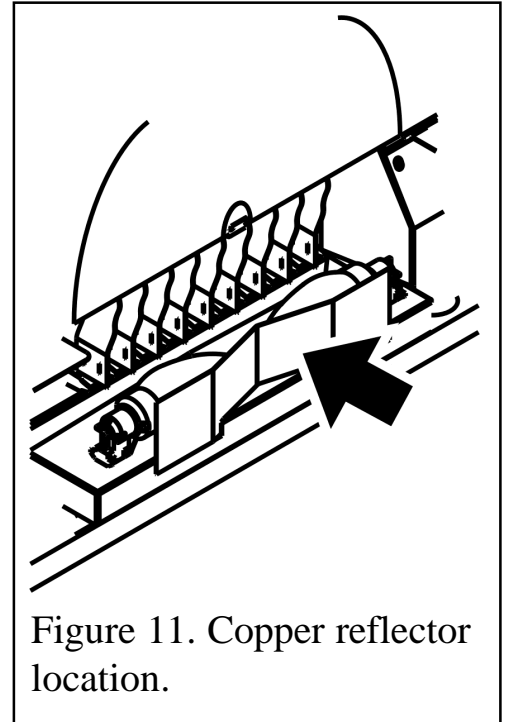

Figure 11. Copper reflector location.
It simply drops into the shaped slot in front of the light bulbs (See figure 11). Remove any protective film before use.
3. Lift out the copper reflector plate (See figure 11).